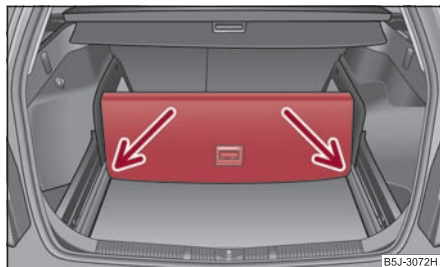

Fig. 86 Divide the luggage compartment
- Lift up a part of the loading floor with the handle and secure it by moving it into the grooves ⇒ **fig. 86.** ■